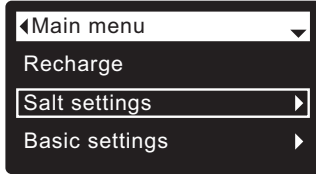

FIG. 36
1. From any of the rolling status screens, press the SELECT (O) button to display the **Main menu**.
2. Press the DOWN (▼) button to scroll through the menu options until **Salt settings** is highlighted (See Figure 36).